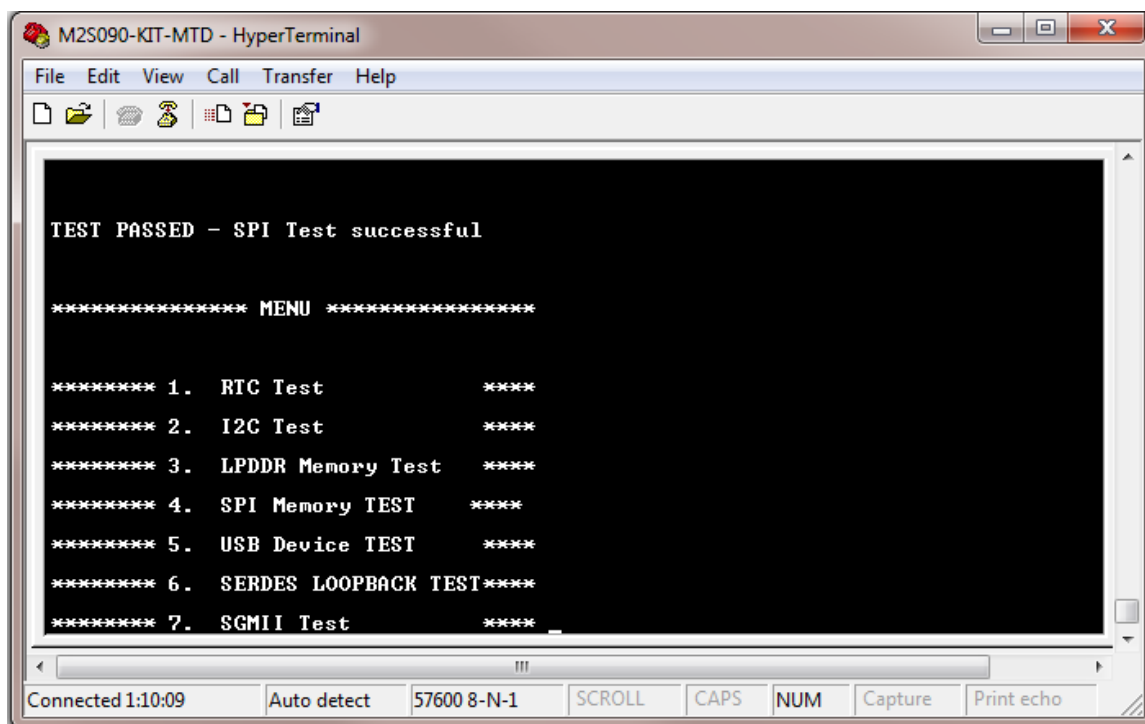

Figure 43 SPI Memory Test Passed
10. When the test is passed, a message is displayed. Refer to Figure 43.